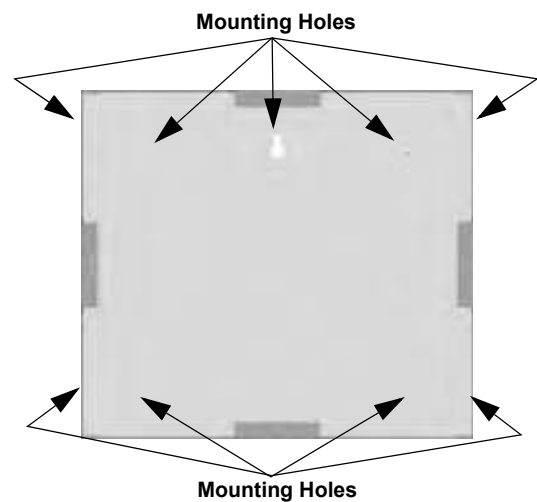

Figure 3: Back Box Mounting Holes
1. The back box dimensions are 9-3/8" w x 8-3/8" h. The minimum depth 2". The back box can be mounted prior to the complete installation of the RA-2000 using any of the mounting holes shown in Figure 3.